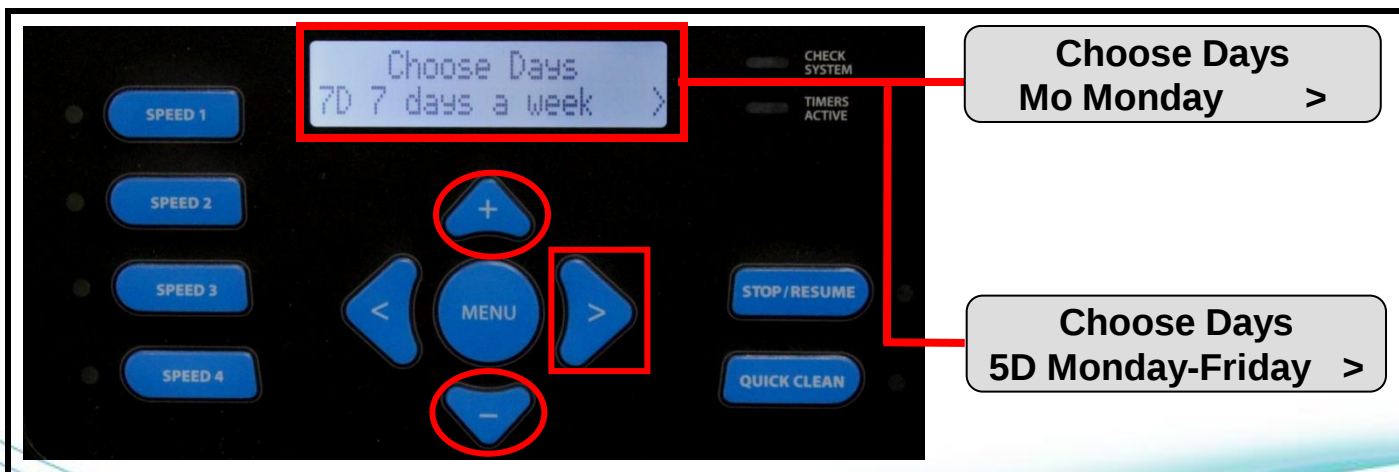

Figure 48
7. This screen will allow you to choose the days this timer will be active. You can choose an individual day, 7 day or 5 day by using the  &  button (fig 48). Press the  button to continue to the next timer.